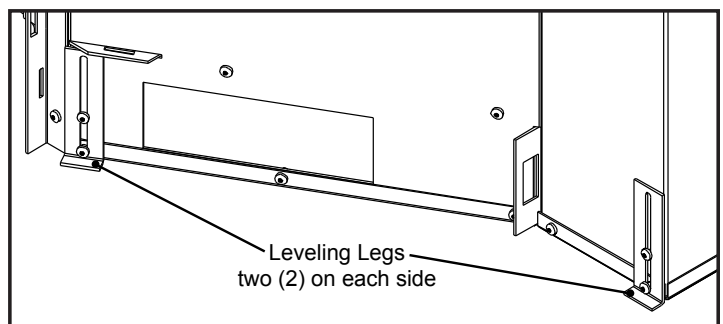

Figure 19: Leveling legs position.
4. Remove the vent collar plate from the top of the stove by unscrewing the two (2) T-20 Torx screws located on the center top of the stove. Slide the collar plate backwards. If the fireplace that the unit is to be installed into is high, the collar plate does not need to be removed. Properly secure the vent collar plate to the flexible vent pipe liner(s) previously installed in the chimney. Be careful not to overstretch the liner(s).
7. Adjust the leveling legs to ensure the unit is level. There are two (2) leveling legs on each side (shown in Figure 19).